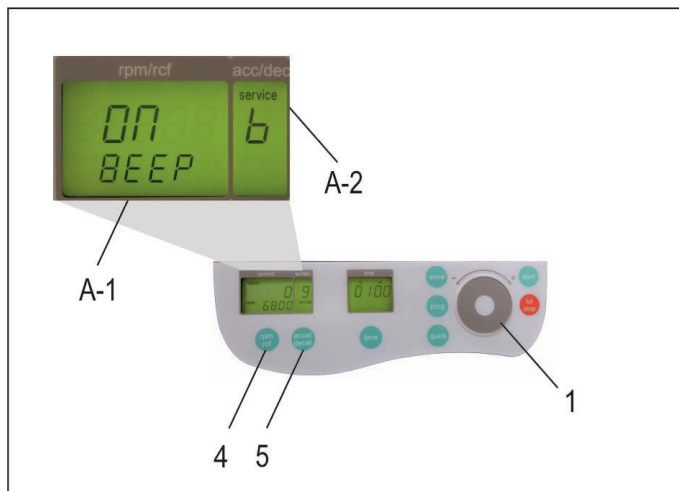

Figure 3
Proceed as illustrated, under point 1.8.2, to enter this program mode, press the key, "accel/decel" (5). In the display, "accel/decel" (A-2) flashes the word, "service". Select the letter "b" with the control field (1). As a result, appearing in the display, "rpm/rcf" (A-1), the word "ON/BEEP". After pressing the key, "rpm/rcf" (4), turn the keyboard sound (On) or (Off), with the rotatory field (1), (see Figure 3).
After not using the centrifuge for 5 minutes, the centrifuge automatically falls into sleep mode. The display is switching off and the LED light is flashing slowly with yellow color. By pressing any bottom, it switches on again. Proceed as illustrated, under point 1.8.2, to enter this program mode, press the key, "accel/decel" (5). In the display, "accel/decel" (A-2) flashes the word, "service". Select the letter "I" with the control field (1). As a result, appearing in the display, "rpm/rcf" (A-1), the word "SLEEP". After pressing the key, "rpm/rcf" (4), turn the sleep mode function (On) or (Off), with the rotary field (1), (see Figure 3).